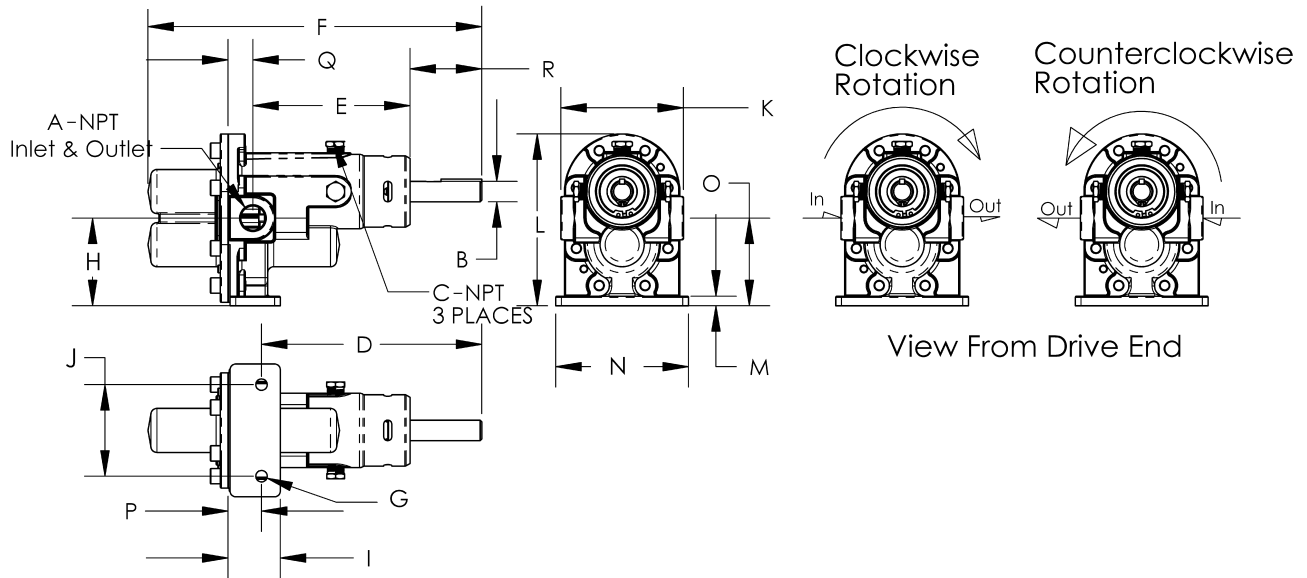

Figure 1
3. Attach suction line to suction inlet (See Figure 1 for proper rotation).
4. Recheck motor and pump rotation. Pump rotation is by-directional (See Figure 1).
**NOTE:** Pedestal Gear Pumps will operate equally well in either direction (See Figure 1). When looking at the pump drive shaft end and rotating the shaft clockwise, the discharge port is on the right-hand side. When turning counter-clockwise, the discharge port is on the left-hand side.